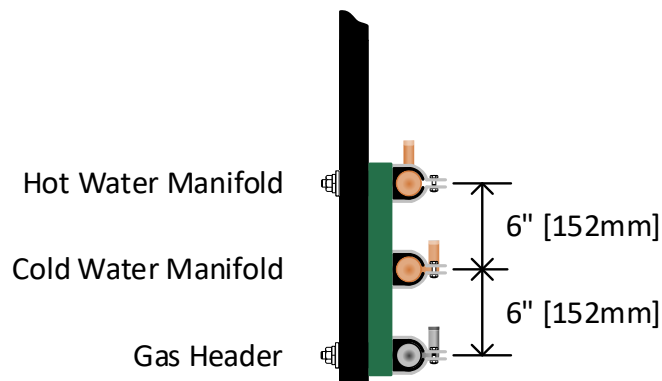

Figure 5: Gas Header and Water Manifold Installation Clearances
4. Mount the Gas Header near the bottom of the Mounting Struts as shown in Figure 5 using the 1-7/8" Strut Clamps. Ensure the LEFT END label is on the left side. Tankless Water Heater Systems consisting of greater than four units will require two Gas Headers be connected together with the supplied 1-1/2" Cast Iron Union using thread sealant approved for natural gas/propane.
5. Mount the Cold Water Manifold 6" [152mm] above the Gas Header as shown in Figure 5 using the 2-1/8" Strut Clamps. Ensure the LEFT END label is on the left side. Tankless Water Heater Systems consisting of greater than four units will require two Cold Water Manifolds be sweated together with the supplied 2" Copper Coupling.
6. Mount the Hot Water Manifold 6" [152mm] above the Cold Water Manifold as shown in Figure 5 using the 2-1/8" Strut Clamps. Ensure the LEFT END label is on the left side. Tankless Water Heater Systems consisting of greater than four units will require two Hot Water Manifolds be sweated together with the supplied 2" Copper Coupling.